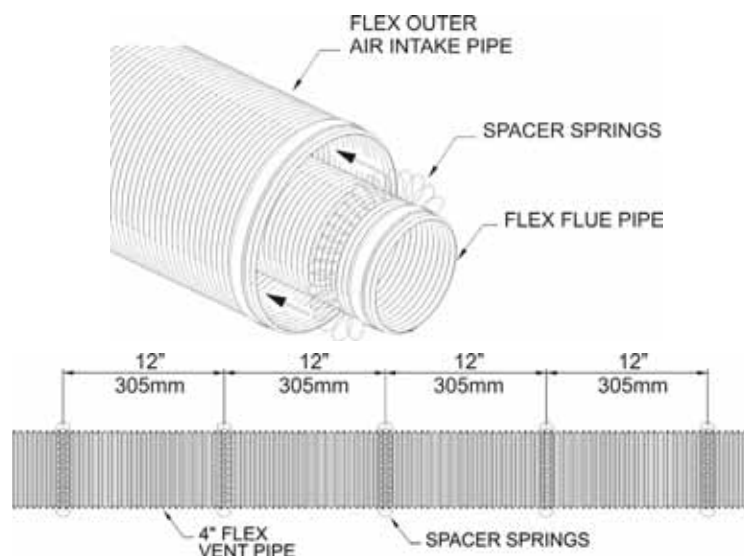

Figure 30
9. Install the spring spacers provided around the 4" diameter flex flue at 1 foot intervals, then slide the flue pipe with spacers into the 7" diameter outer flex vent pipe. Make sure the springs are spaced evenly starting at 12 inches from the fireplace collar. **See Figure 30.**